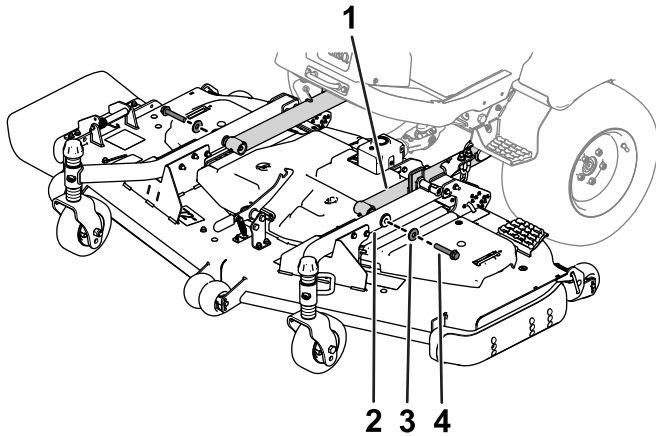

Figure 4
7. Use 2 hex-head bolts and 2 washers to secure the castor arms to the lift arms (Figure 4).